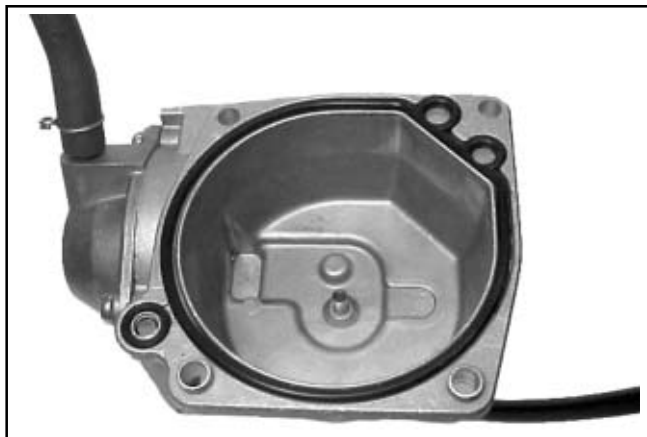

Figure 5-23. Installing Fuel Bowl O-Rings.
14. When the proper float height is obtained, carefully install the new O-Rings for the fuel bowl and the accelerator pump transfer passage (if so equipped). See Figure 5-23.